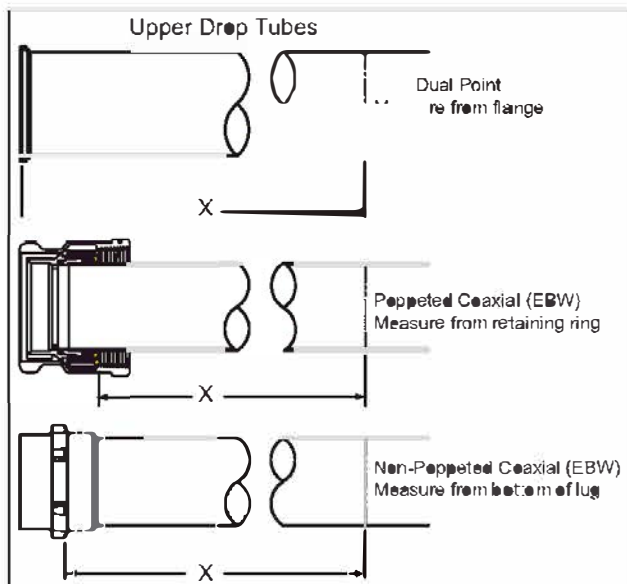

Figure 3: Dimension X for Upper Drop Tube
1. Mark the upper drop tube with the length "X" calculated from Figure 1, measuring per Figure 3: